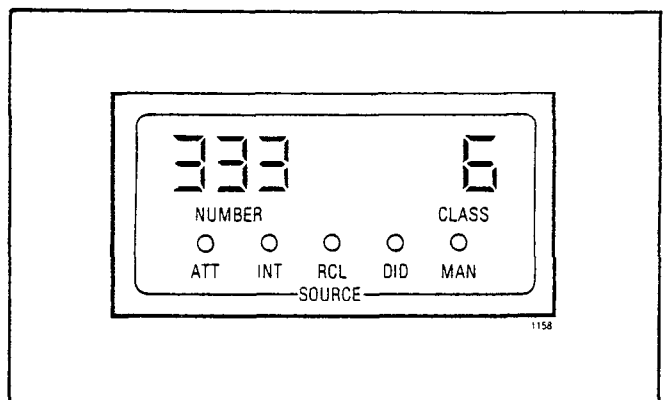

Fig. 4-4 Source Display
4.30 SOURCE: The SOURCE display (Fig. 4-4) consists of two digital and five LED displays which provide the following information on all calls directed to the console.